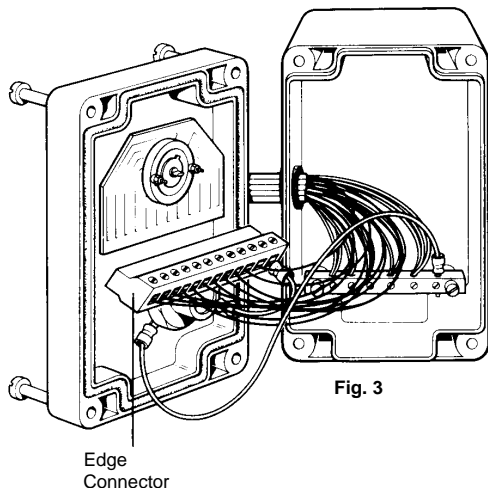

Fig. 3
5. In the case of the R12, connect the extension from all red or green wires to the numbered terminals on the edge connector, noting the number of each sensor. The test sheet provided can be used for this purpose. Extensions from all the blue wires should be connected to the square ground bar in the base of the box. With screw heads facing outwards, push the edge connector onto the printed circuit board (Fig. 3).